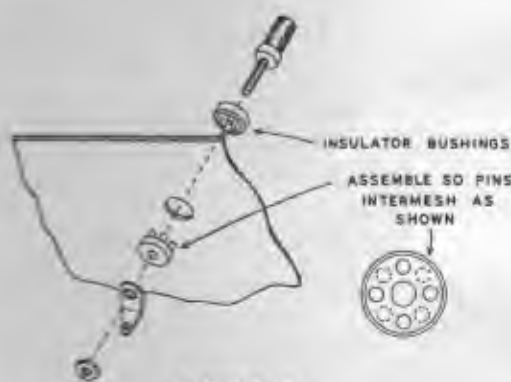

FIGURE 7.
- ( ) Following Figures 7 and 8, mount the VERT. INPUT terminal (RED) at RR, using the special low capacity insulators. These are the small round plastic bushes. Note that four pins project from one face of the insulators, so spaced that two of the insulators can be meshed through the panel hole. Use a 4BA shakeproof solder tag and before tightening the nut, be sure that the cross-drilled wire hole is horizontal.